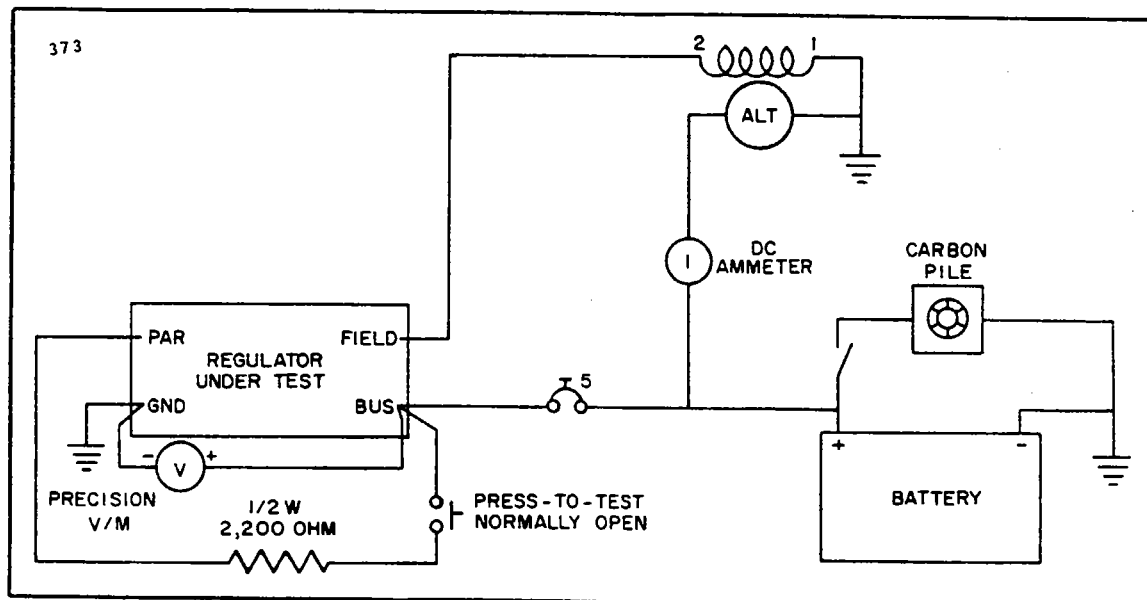

Figure 11-35. Testing Regulator (Lamar)
a. The procedure for testing the regulator, whether on the airplane or on the test bench, remains the same. Connect the test meters and regulator wiring as shown in Figure 11-35.
d. With the connections made as shown in Figure 11-35, start the engine and adjust its speed to obtain an RPM of 1500. Adjust the carbon pile or accessory load to establish the